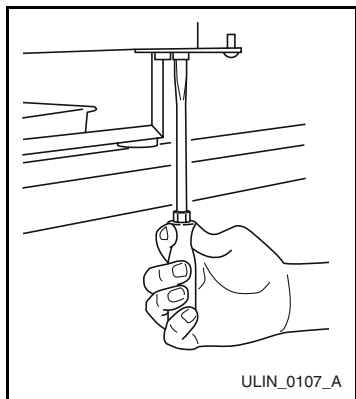

Figure 14
- Remove bottom hinge from cabinet (four screws) and screws on opposite side of cabinet (**Figure 14**).